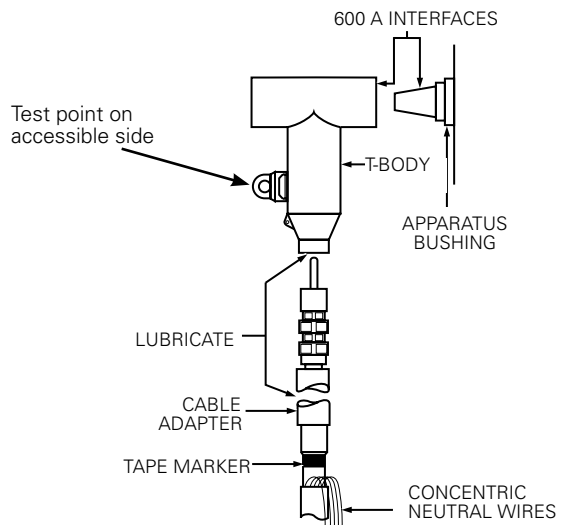

Figure 12. Line illustration of BOL-T-body installation
- Without moving the cable adapter, slide T-Body onto cable adapter until compression connector eye is centered in 600 A interfaces. (Refer to Figure 12.)